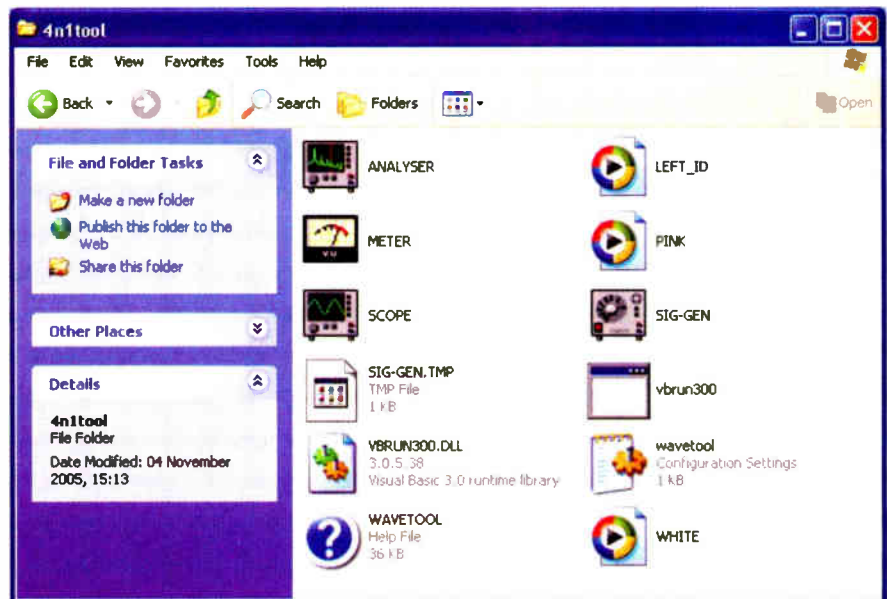

Fig.7.20. The various Wave Tools are located in the 4in1tool folder
- Download the Wave Tools software from www.miketooley.info (click on the Downloads tab). The software consists of a number of files stored in a single compressed folder called **4in1tool**. Transfer the folder to your PC and store it in a folder of your choice (for example, C:\wavetools\). Unzip the folder so that all of the files are present in the same directory – see Fig.7.20. If desired, create a shortcut on your desktop to the executable files: